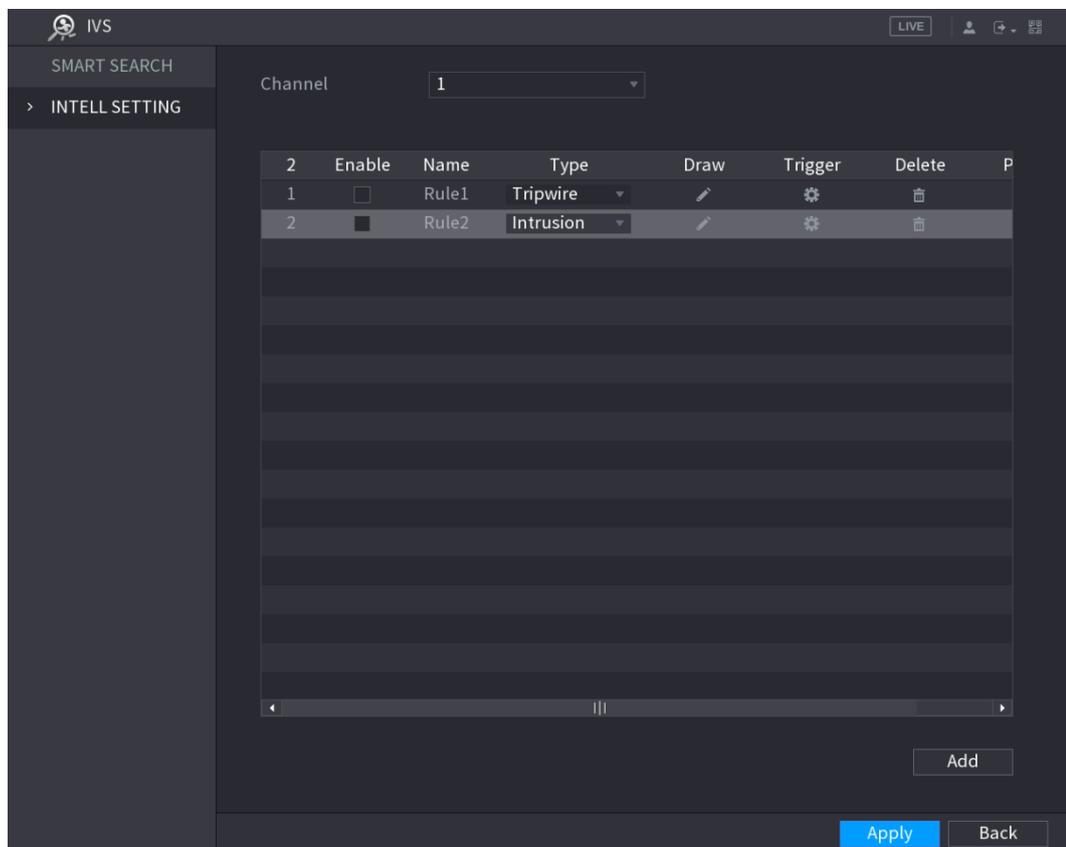

Figure 5-135
**Step 1** On the rule line that you added, in the **Type** list, select **Intrusion**. See Figure 5-135.